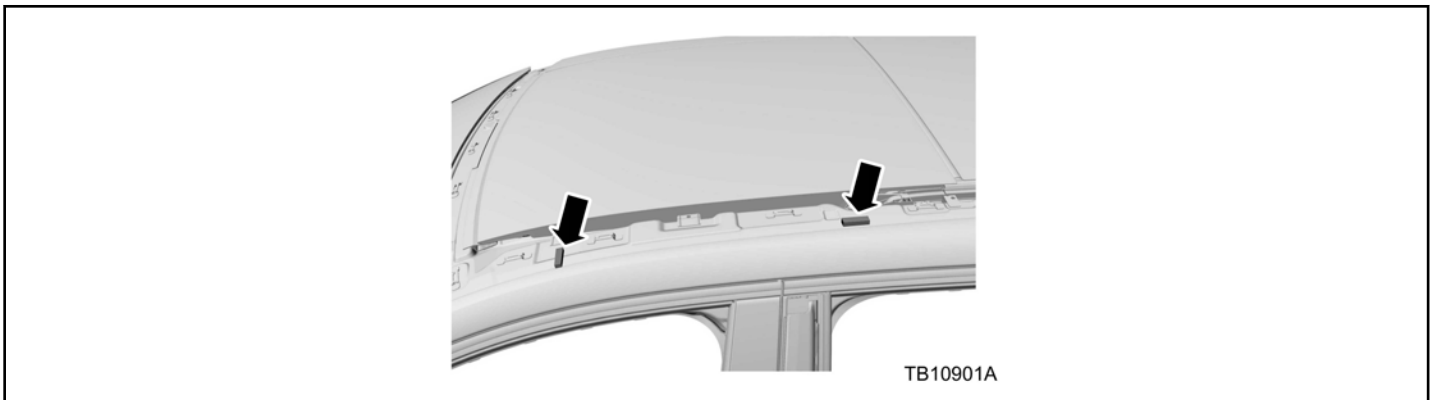

Figure 3 - Article 16-0079
- 10. Apply a 10 mm (3/8") wide X 15 mm (9/16") tall bead of urethane adhesive a minimum of 30 mm (1-1/8") long to the roof opening panel frame in the locations shown. (Figure 3)